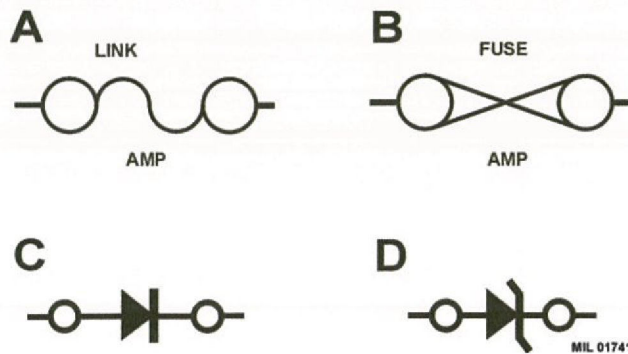

Fig 10 Fuses and diodes
22 Fusible links (refer to Fig 10 (A)) and current fuses (B), are identified as shown. The direction of the arrow in a diode symbol (C) indicates the direction of flow. The Zener diode (D) prevents current flow until a precise voltage is reached.